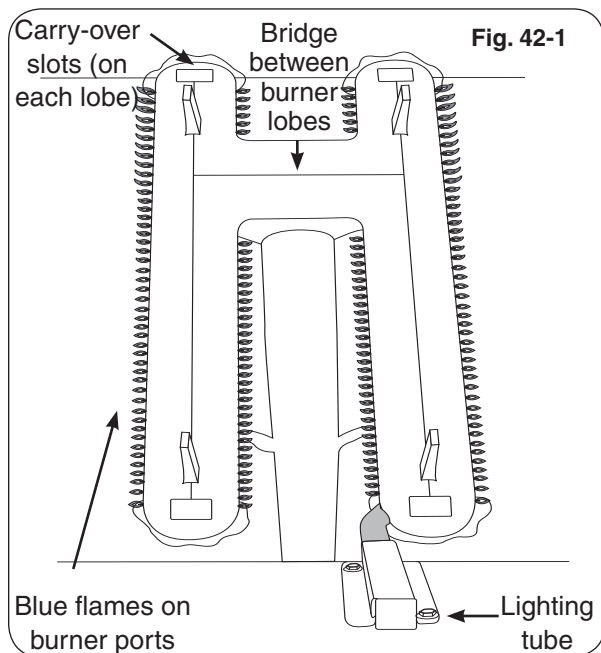

Fig. 42-1
Flames from a properly adjusted main burner with no wind or breeze present will appear fairly steady, consistent, and mostly blue. If the tip of a flame were to turn orange, it should only do so briefly and then become blue again. The flames will appear to burn while touching the burner ports (see Figure 42-1).
5. Repeat steps 1-4 until the flames appear to touch the burner ports, burning fairly steadily and mostly blue (see Fig. 42-1).